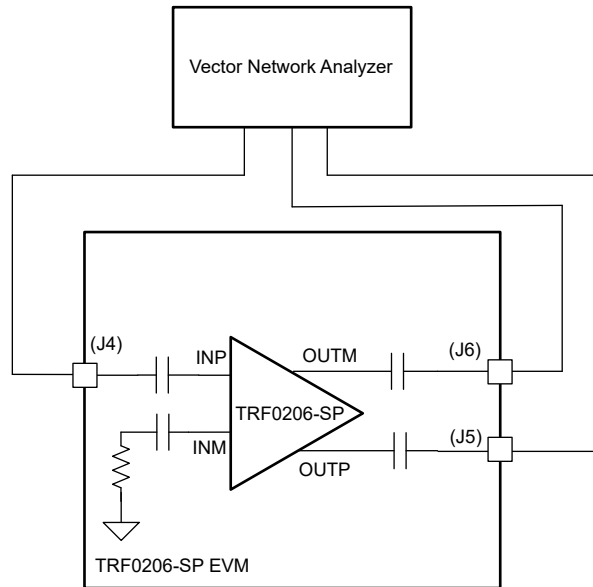

Figure 3-1. S-Parameter Test Setup
1. As Figure 3-1 shows, the S-parameter is typically measured using a Vector Network Analyzer (VNA). For measuring the TRF0206-SP EVM, a 3-port VNA is recommended which can generate single-ended and receive differential signals at the input and output ports of the EVM respectively.